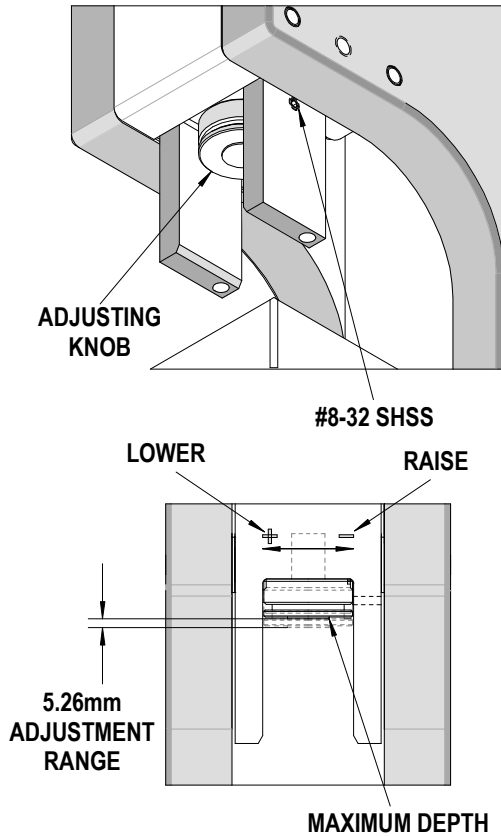

Figure 2-4
1. Loosen the #8-32 set screw in the Ram which locks the Ram Adjusting Screw into place. See Figure 2-4.
2. There is an indicator engraved on the ram just above the Ram Adjusting Screw. Turn the Ram Adjusting Screw clockwise (CW) toward the "+" sign to increase the ram stroke. To decrease the stroke, turn the Ram Adjusting Screw counterclockwise (CCW) toward the "-" sign. Stroke adjustment controls the shut height of the connector assembly. Ram stroke is set so that the connector measures a specific shut height when terminated. See Product Specifications for proper shut height dimensions and related information.